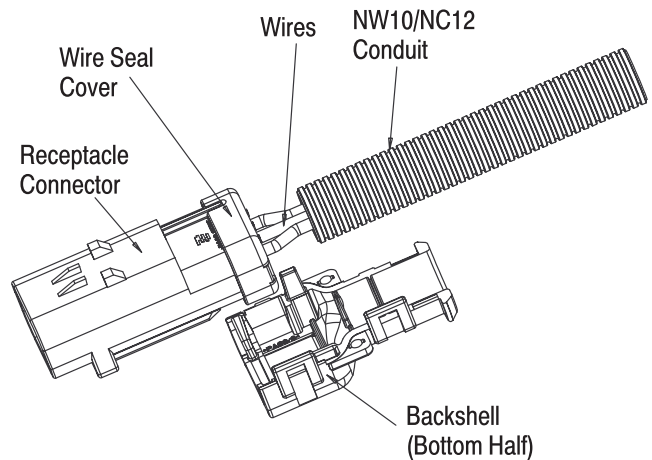

Figure 2
4. Align the plug or receptacle connector and the bottom half of the backshell as shown in Figure 2.